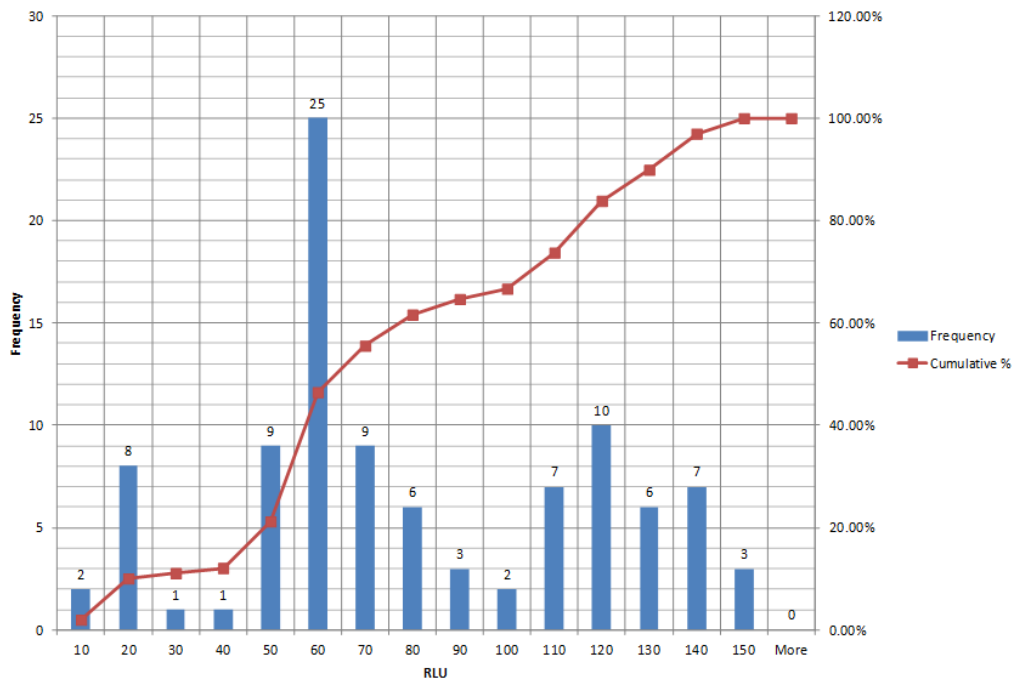

Figure 3. Example of a histogram chart showing RLU test results for pizza line from the demo database results.
- The example histogram in figure 3 shows multiple peaks in the frequency of RLU test result values at 20 RLU, 60 RLU, and 120 RLU, which could indicate the cleaning process is sometimes achieving the level of cleanliness indicated by 120 RLU, and other times achieving the level of cleanliness indicated by 60 RLU, and yet other times achieving the level of cleanliness indicated by 20 RLU. This may indicate that the cleaning process is not consistent, and you should investigate the cause of this inconsistency. Another potential cause is that the data has been confounded by including Test Points expected to have three different levels of cleanliness (20 RLU, 60 RLU, and 120 RLU).